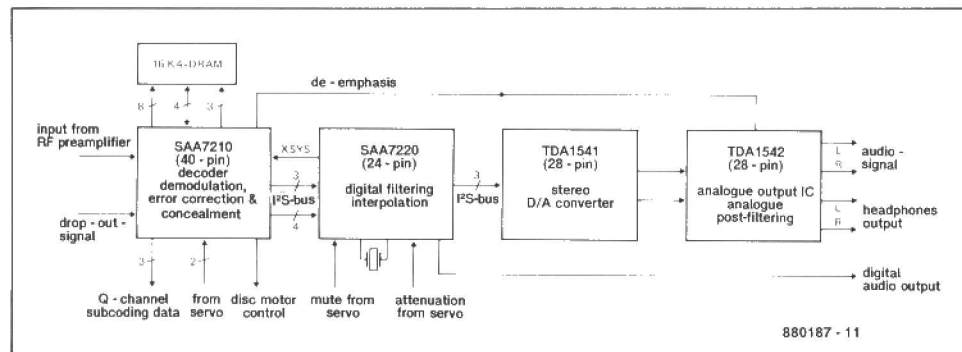
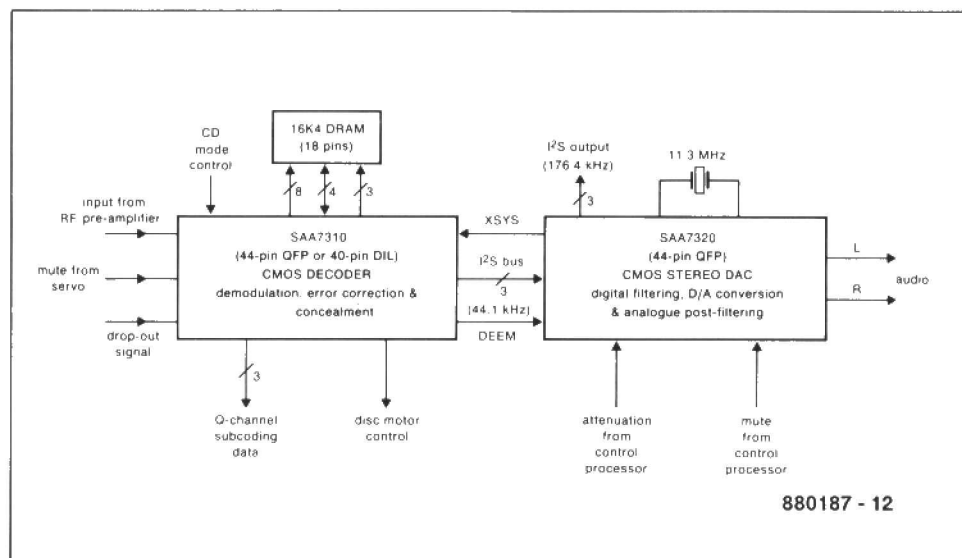

Fig. 1. Block diagram of the decoder and digital-to-analogue converter in a typical second-generation CD player.
Fig. 2. Block diagram of the decoder and digital-to-analogue converter stages in a third-generation CD player: five chips have been reduced to three.
Figure 1 of *Pitch Control for CD Players*(3) showed the block schematic of a typical second-generation compact-disc player. The signal processing (decoding) section of that diagram is repeated in Fig. 1 of this article. It consists of four special CD ICs and a standard DRAM. For the third-generation CD player, the four special CD ICs have been replaced by two new ICs as shown in Fig. 2.
As already shown in Fig. 2, in the next generation CD player, the SAA7310 performs the same functions as the current SAA7210: demodulation, full error correction, and basic interpolation of uncorrectable audio samples. In addition, it controls the new data interpolation inhibit and the data concealment process. The SAA7320, which replaces the SAA7220, the TDA1541 and the TDA1542, includes a phase linear digital low-pass filter, two newly designed high-linearity D-A converters and opamps for analogue post-filtering. Like the SAA7220, it has facilities for attenuating the audio output by 12 dB, which can be used at the start of *fast forward/fast reverse* commands and a search for a track, for instance. In addition, the soft mute facility that can be used when moving to another track and during pauses is retained.